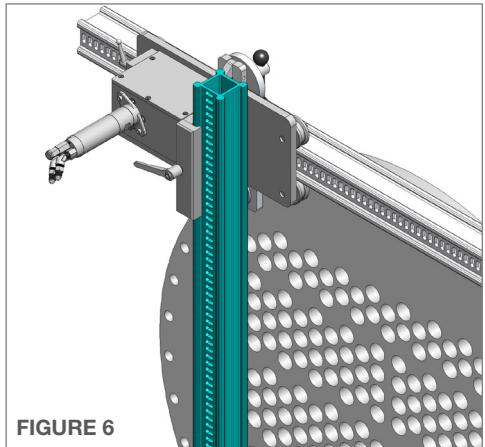

FIGURE 6
- Loosen the **Large Adjustable Handle** for the Vertical Rail Clamp. Align the Idler Carriage with the vertical rail clamp on the horizontal carriage. Install the **Vertical Rail** with **(slots facing out)** down through the horizontal carriage clamp and between the rollers on the idler carriage. Adjust the position of the vertical rail as required and secure the clamp on the horizontal carriage by tightening the large adjustable handle. (**Figure 6**)